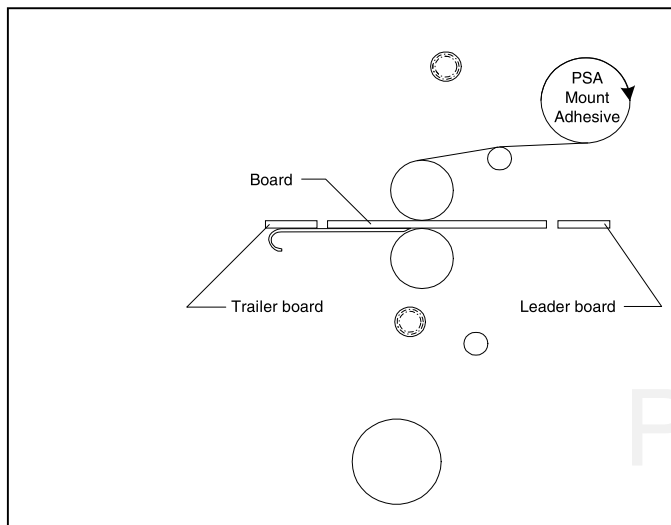

Fig. 29
#### TIPS FOR PRE COATING BOARDS (Figure 29)
1. Load the laminator as illustrated in Figure 29.